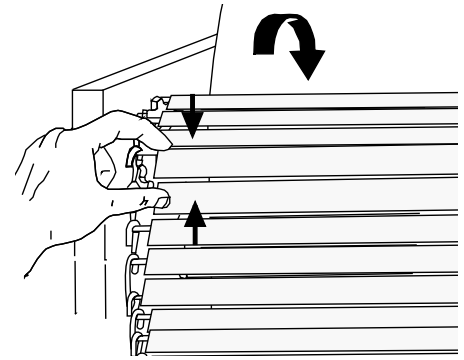

Figure 4. Remove Belt Link
8. Disconnect the Conveyor Belt Chain by squeezing any two links together and unhooking both ends of one link (Figure 4). Needle-nose pliers may be used
NOTICE: The ends of the hooks must point down (Figure 4).